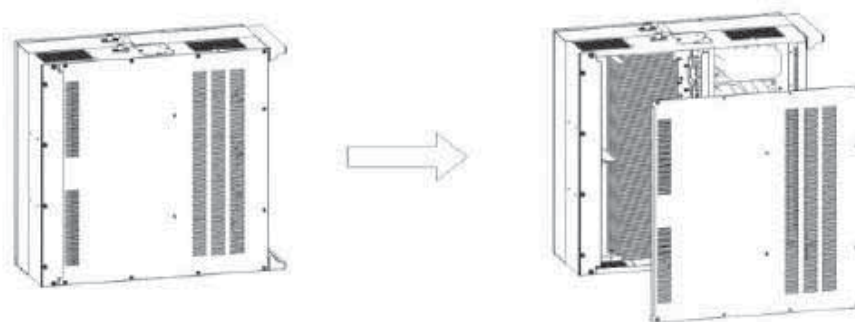

Figure 5.4 Disassembly of the heat sink
- (1) Disconnect AC circuit breaker.
- (2) Turn the DC switch to the "OFF" position.
- (3) Wait at least 10 minutes.
- (4) Disconnect all electrical connections from the bottom of the inverter.
- (5) Lift the inverter with the help of others and remove the inverter from the wall.
- (6) Place the inverter on the operating platform.
- (7) Disassemble the fan case as shown in Figure 5.4